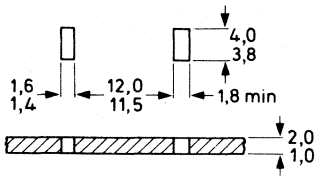

Fig. 1 Heatsink requirements.
2. Push the short end of the clip into the narrow slot in the heatsink with clip at an angle of  $10^{\circ}$  to  $30^{\circ}$  to the vertical (see Figs 1 and 2).